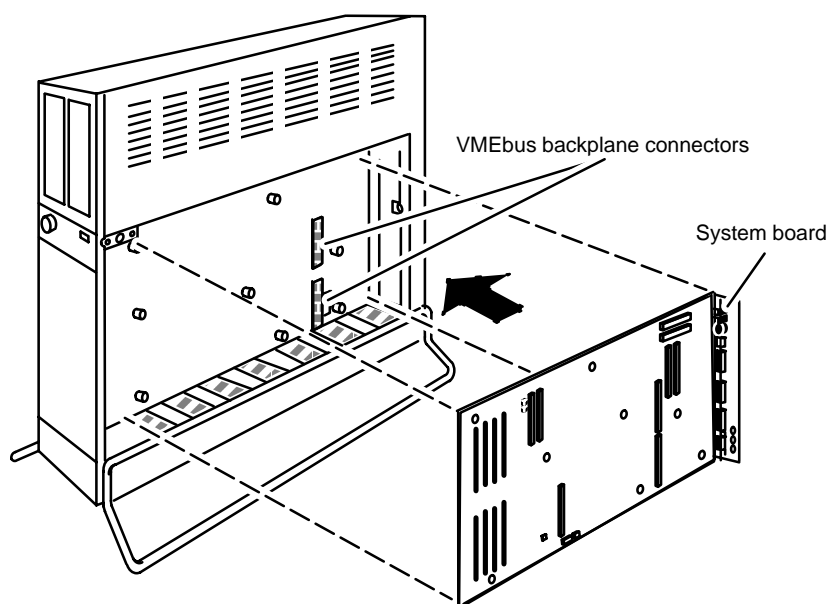

Figure 10-12 Inserting the System Board into the Computer Unit
6. Insert the system board in the computer unit, aligning the two VME connectors on the back panel, shown in Figure 10-12, with the two connectors on the back of the system board.